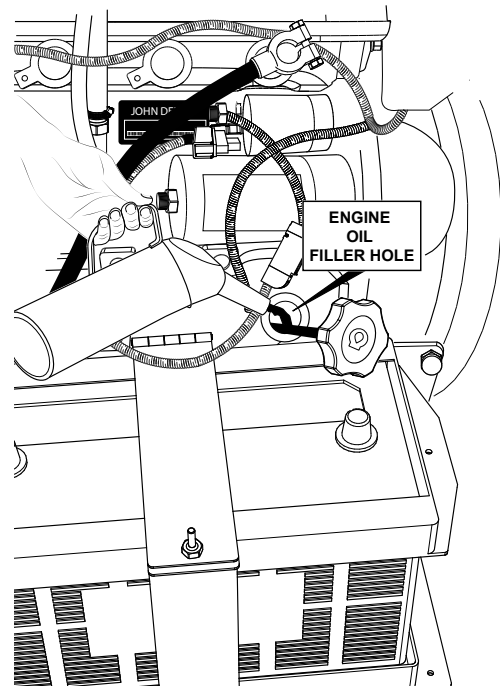
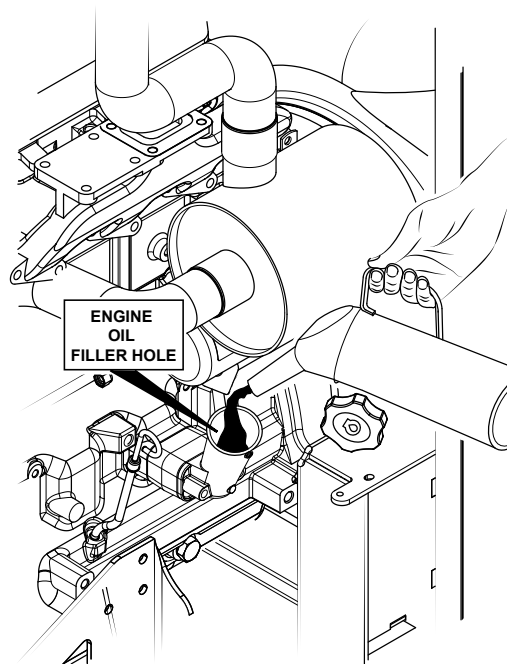

Figure 17. AP6 Engine Oil Filler Hole
Figure 18. AP8 Engine Oil Filler Hole
4. If engine oil is low, fill engine crankcase with lubricating oil through filler hole (Figure 17 and Figure 18, but **DO NOT** overfill).